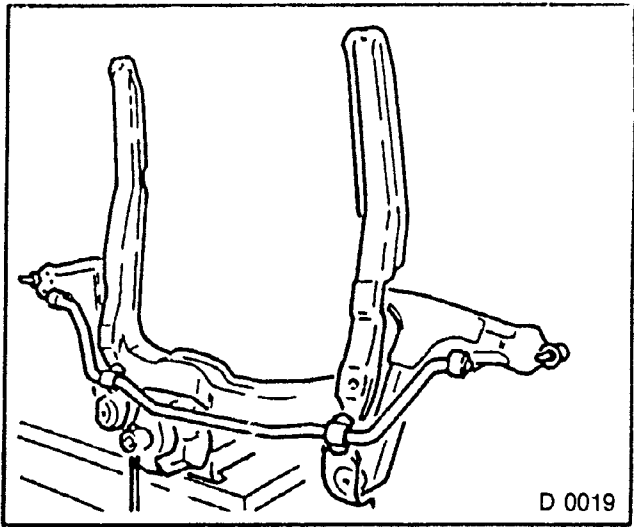

Fig 70
- 3. Mounting sleeves in rear damping bushing are not applicable when installing. (Fig. 70 shows front axle body with long outrigger).